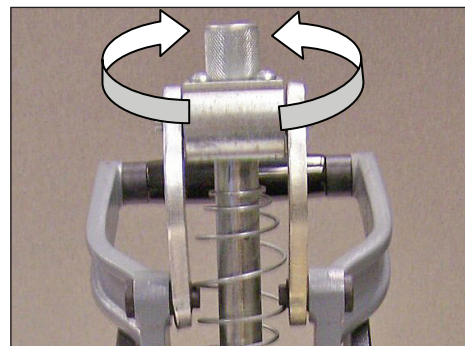

Figure 3: 3M™ Assembly Press 3640
- 3.5 Rotate the shut height to lower or raise adjustment feature until the bottom of the shaft contacts the desired position on the shut height gauge. (See Figures 3 and 4)